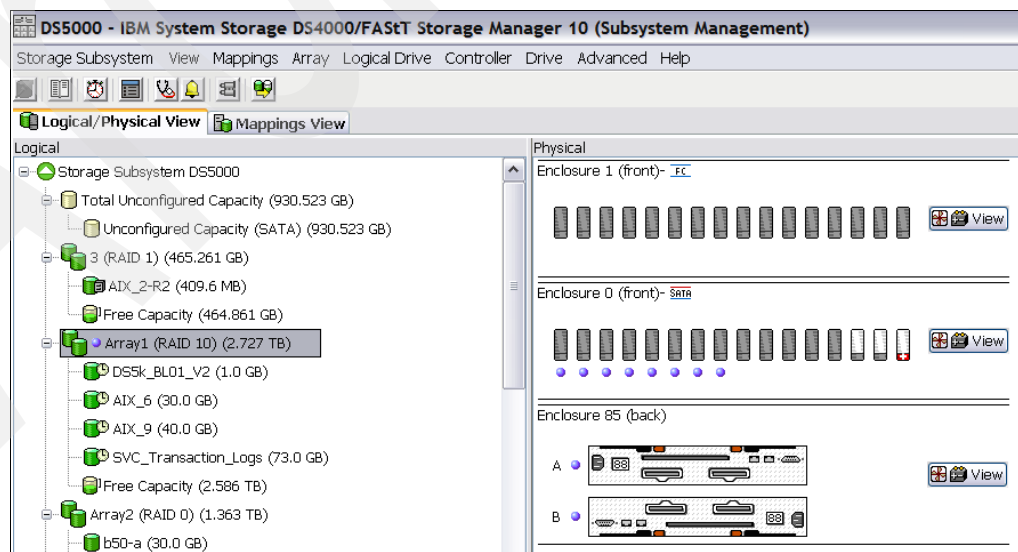

Figure 11-21 Transaction Log LUN
- The second LUN is the transaction logs for that SQL database (Figure 11-21).
- The read ahead multiplier is set to disabled (0).